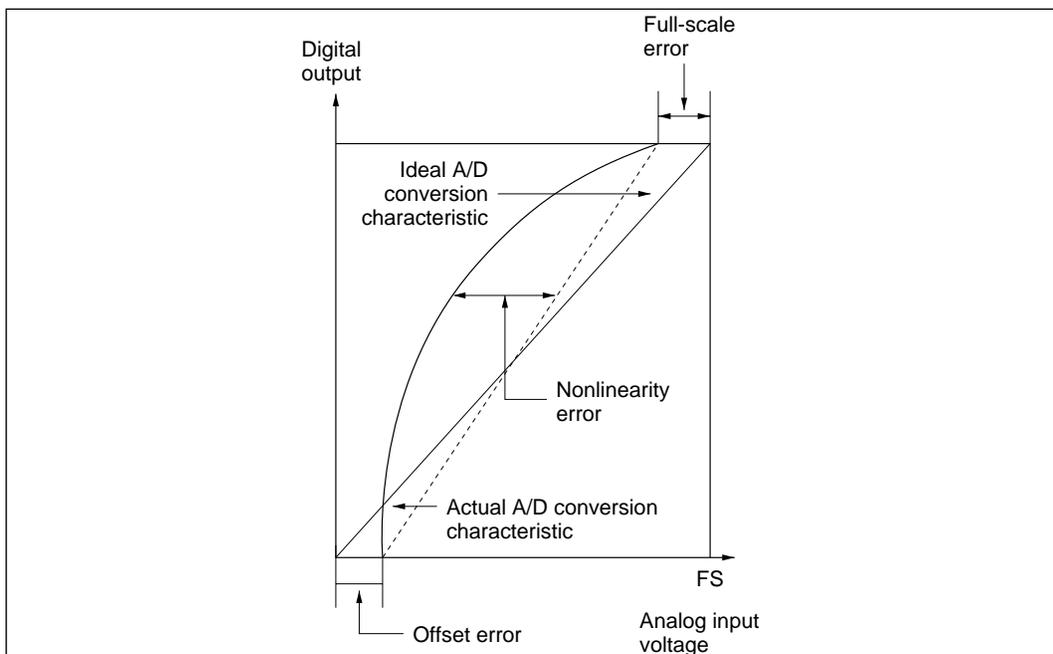

Figure 14-10 A/D Converter Accuracy Definitions (2)
- Offset error:Deviation from ideal A/D conversion characteristic of analog input voltage required to raise digital output from minimum voltage value 0000000000 to 0000000001 (figure 14-10)
- Full-scale error:.....Deviation from ideal A/D conversion characteristic of analog input voltage required to raise digital output from 1111111110 to 1111111111 (figure 14-10)